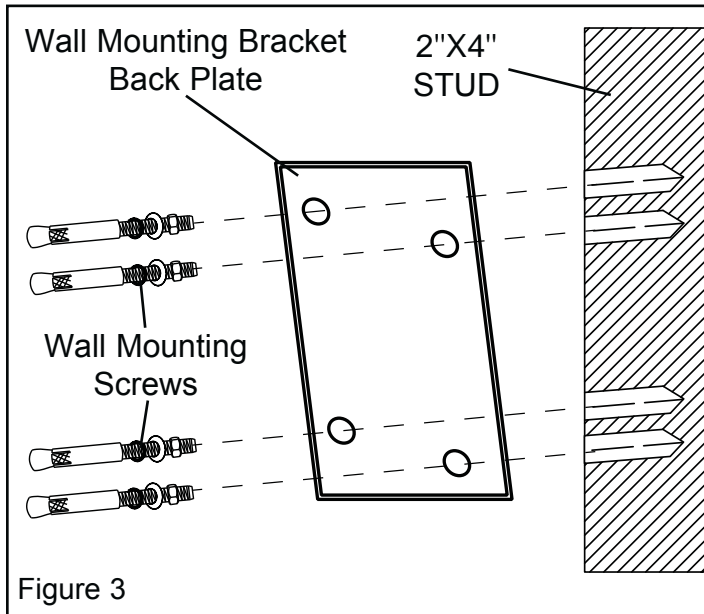

Figure 3
2. Attach the mounting bracket to a wall stud as shown below using the four (4) included wall mounting screws. (Figure 3)